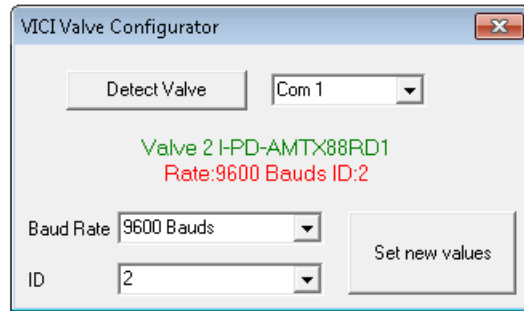

Figure 20. VICI Valve Configurator to set the correct valve ID
- 1 Select the com port (of the PC) where the valve is connected, see **Figure 20** on page 45.